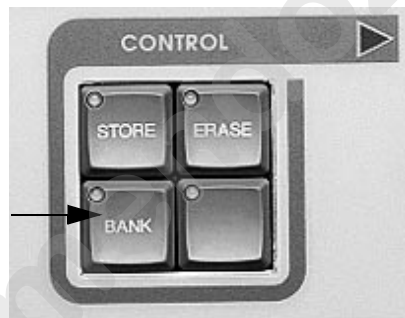
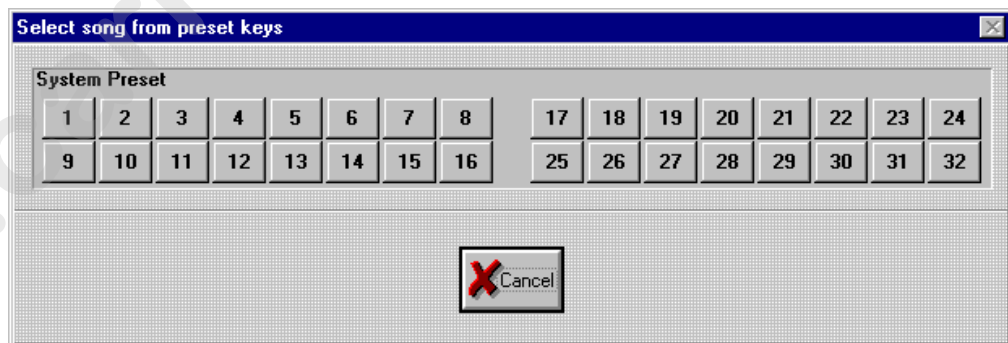

Figure 7.19. CONTROL Group
Figure 7.20. Select Song From Preset Keys Dialogue Box
2. Press the <BANK> key in the CONTROL group (Figure 7.19). This will bring up the **Select Song From Preset Keys** dialogue box (Figure 7.20).